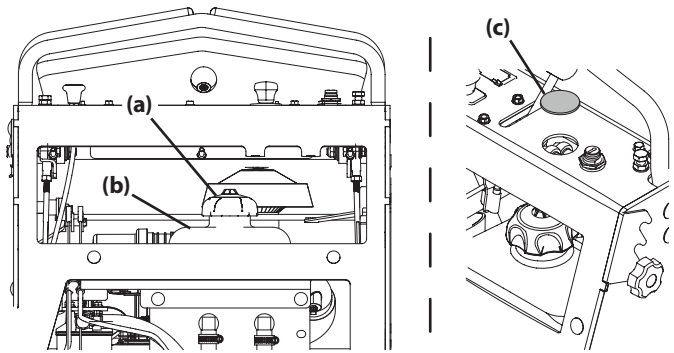

Figure 21
5. Mowers with 48, 54 or 60 inch Mowing Decks Only: Insert a funnel into the reservoir (b). (Figure 21).
- a. Remove the black cap (c) from the control panel by reaching under the panel and squeezing the two tabs and pushing up (Figure 21).